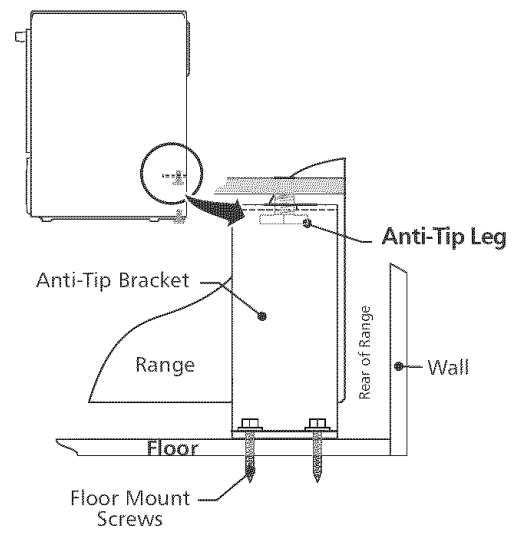

Figure 11
4. Remove template and place bracket on floor. Line up holes in bracket with marks on floor and attach with 4 screws provided. Bracket must be secured to solid floor (figure 11). If attaching to concrete floor, first drill 3/16" (0,48 cm) dia. pilot holes using a masonry drill bit.